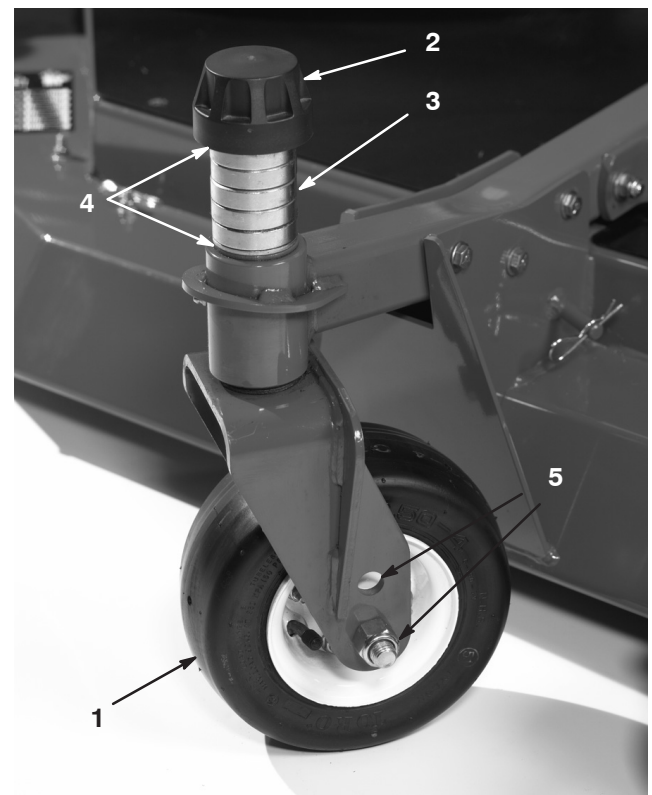

Figure 20
11. Adjust 1/8 in. shims on castor fork(s) to match height of cut to decal (Fig. 20); refer to Adjusting the Cutting Unit Pitch.